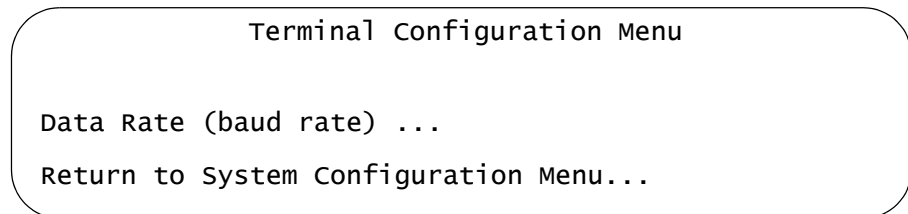

Figure 51. Terminal Configuration Menu
4. From the System Parameters Configuration Menu, select **Terminal Configuration**. The Terminal Configuration Menu is shown in Figure 51.